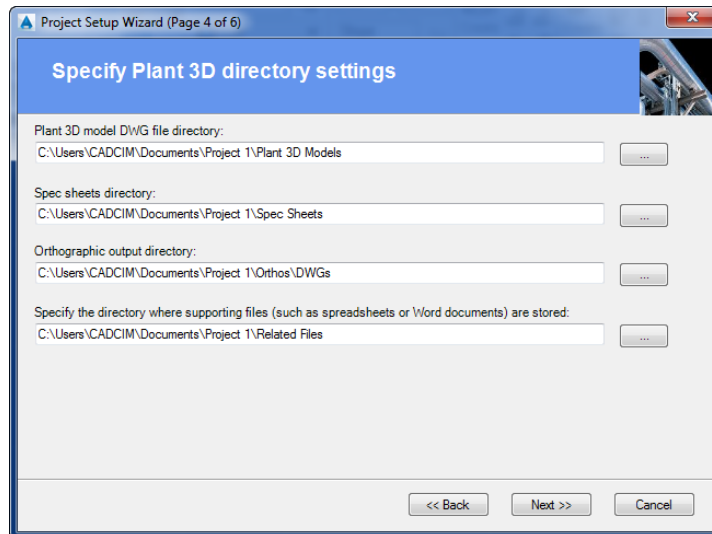

Figure 2-5 The Specify Plant 3D directory settings page
6. Select **PIP** as the P&ID standard from the **Select the P&ID symbology standard to be used** list box and choose the **Next** button; the **Specify Plant 3D directory settings** page will be displayed, as shown in Figure 2-5.